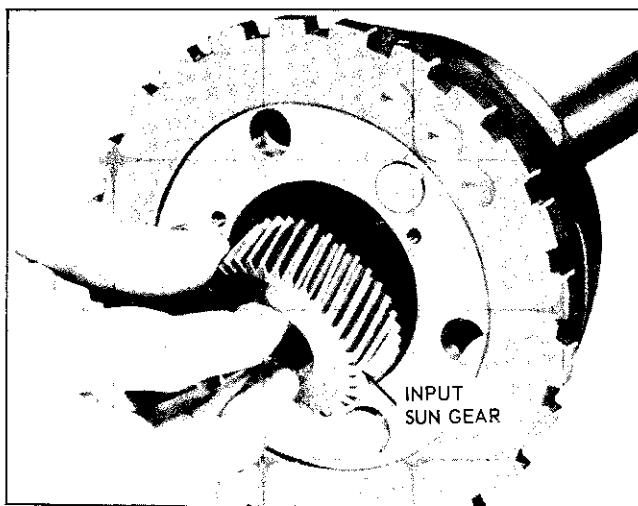

Fig. 7F-61 Removing Input Sun Gear
5. Remove low sun gear needle thrust bearing (Fig. 7F-60).